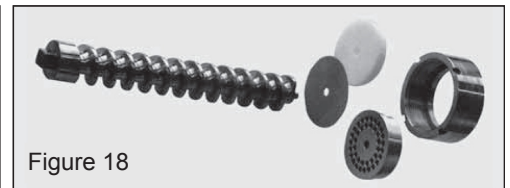

Figure 18
- Disassemble and wash the movable parts (Figures 18 - 19) and clean the machine (see Maintenance section).
You have to properly clean all the elements which are in contact with the product (Figures 18 and 23) protection lid, pool, mixer, Worm screw, drawplate, filter, ring nut and knife, when the product is still soft. The moving parts have to be disassembled as follows: